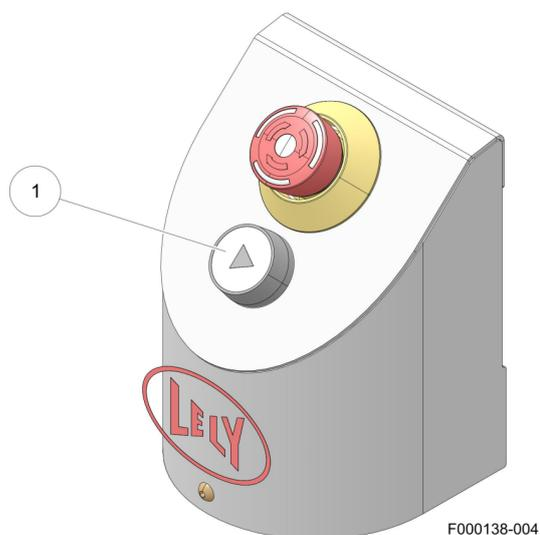

Figure 32. Start button on console
3. On the console, push start (1) (see figure 32 on page 5-2), the system checks if all gates and doors are closed and the start button blinks quickly.
4. When the start button no longer blinks, push start (1) again, the system starts.
1. On the console, push the start button (1) (see figure 32 on page 5-2).